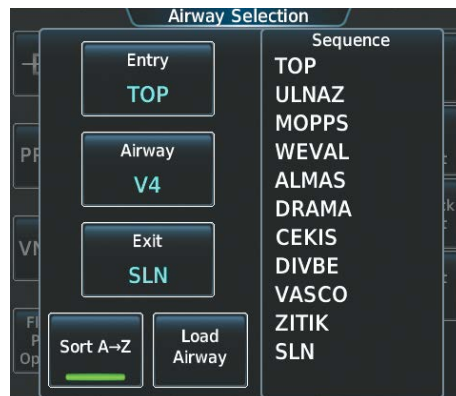

Figure 5-156 Ready to Load V4
- i) Touch the **SLN** Button to select the Salina VOR (SLN). The selected airway entry, exit, and waypoint sequence are displayed as shown in Figure 5-156.